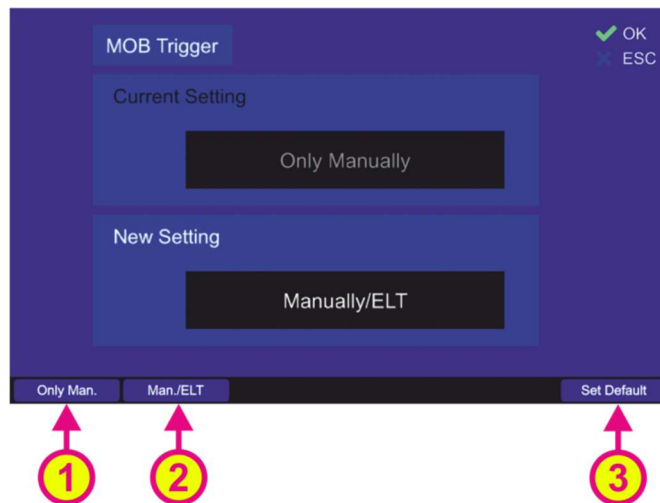

Figure 128. MOB trigger dialog
To adjust the trigger event for starting the MOB mode, press the "OK" button or hotkey "Edit Value", while the setting "MOB Trigger" is marked. The following dialog will open (s. Figure 128).
- Choose the new setting using one of hotkeys (s. Figure 128, positions 1 or 2), which will then appear in the "New Setting" field.
- Press the hotkey "Set Default" (s. Figure 128, position 3), to use the default value ("Only Manually").